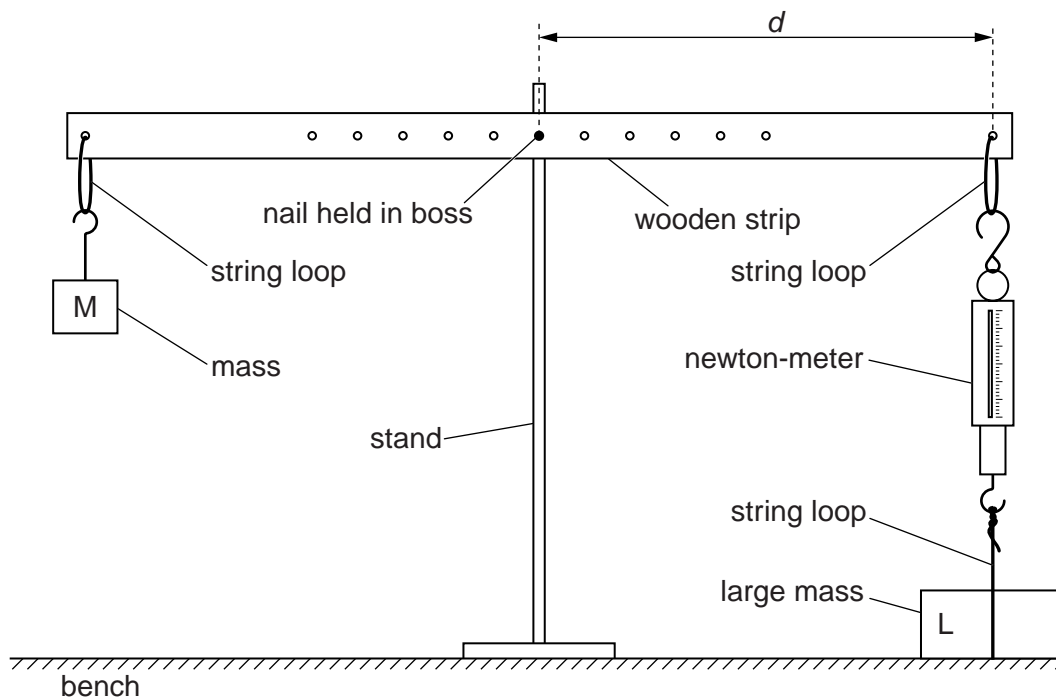

Fig. 1.1
- (a) (i) Assemble the apparatus as shown in Fig. 1.1 with the nail through the **central** hole in the wooden strip.
- (b) (i) Measure and record the distance  $d$  from the nail to the string loop attached to the newton-meter, as shown in Fig. 1.1.